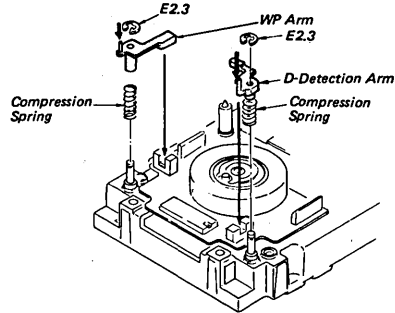

Fig. 4-10 WP Arm/D-Detection Arm/Compression Spring Replacement
h. Remove the E ring (E2.3), pull out both the WP and D-Detection arms, and remove the compression spring (3-659-609-00) from the chassis ass'y. (Refer to Fig. 4-10)
a. Pass the compression spring (3-659-609-00) and WP arm or the compression spring (3-659-609-00) and D-Detection arm through the shaft in sequence. Then, clamp them with the E ring (E2.3). (Refer to Fig. 4-10)